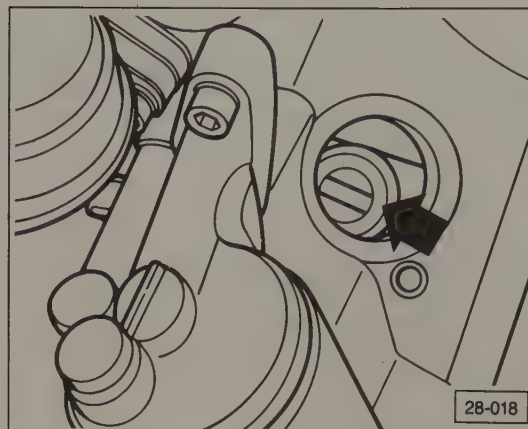

Fig. 5-5. Lug (arrow) on oil pump drive shaft aligned parallel to engine crankshaft.
2. On all except 16-valve engines, align the oil pump drive shaft so that it is parallel to the crankshaft as shown in Fig. 5-5. Use a screwdriver to turn it if necessary.